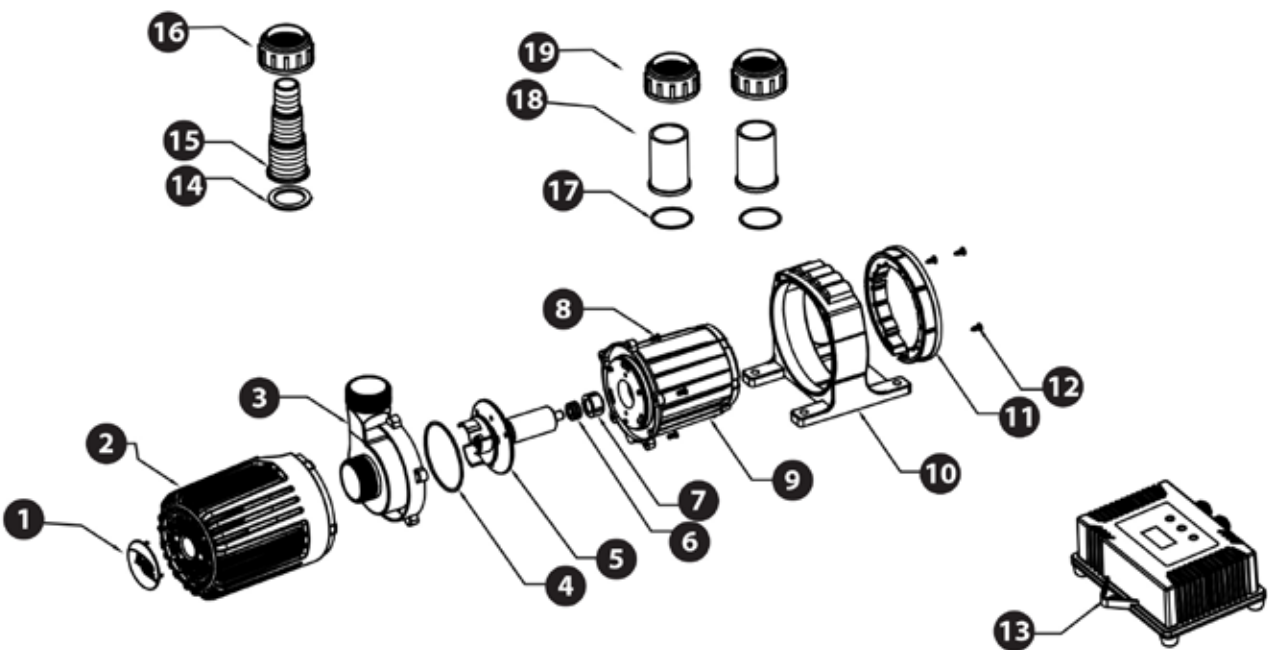

Figure 1.1
- (B) Have a qualified electrician install a properly grounded receptacle outlet, acceptable for outdoor use and protected from snow and rain.
- (C) Any wiring of pumps should be performed by a qualified electrician to ensure code compliance and user safety.
- (D) This is a pond pump. This pump has been evaluated for use with water only. Do not use this pump for other than intended use (i.e.: Do not use in swimming pools, aquariums, etc. Not to be used as a sump pump).
- (E) Do not use this pump in swimming pools or other situations where people are immersed
- (F) If an extension cord is necessary, ensure connection is watertight and dust proof. A cord with proper rating should be used. A cord rated for less amps or watts than the appliance rating may overheat. Care should be taken to arrange the cord so that it will not be tripped over or pulled. The connection should be carried out by a qualified electrical installer.
- (G) Unplug pump at receptacle outlet when not in use or before removal from pond.
- (H) To reduce risk of electrical shock, all wiring and junction connections should be made per local codes. Requirements may vary depending on usage and location.
- (I) Inspect the power cable before using. The power cable should be protected at all times to avoid punctures, cuts, bruises and abrasions. Never cut the cord.
- (J) Never handle power cords with wet hands.
- (K) To avoid injury, do not touch moving or hot parts.
- (L) Do not use power cable to lift pump. (**See figure 1.1**)